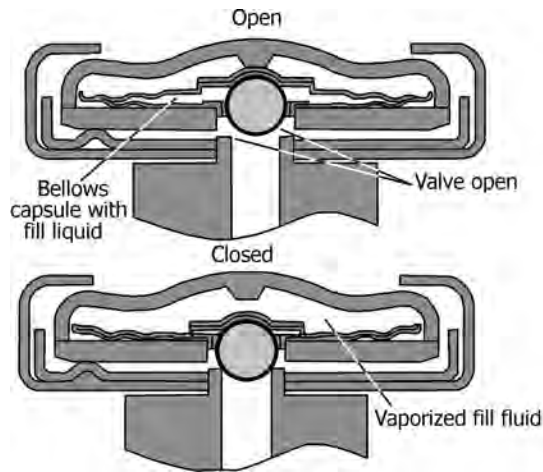

FIGURE 12.20 Balanced pressure steam trap. (Courtesy: Spirax Sarco.)
- The balanced pressure steam trap operates on the principle of liquid expansion due to an increase in temperature. The operating element is a bellows capsule, fixed at one end and partially filled with a special liquid and water mixture with a boiling point below that of water. (Figure 12.20). Integral to the bellows is a valve attached to its free end.